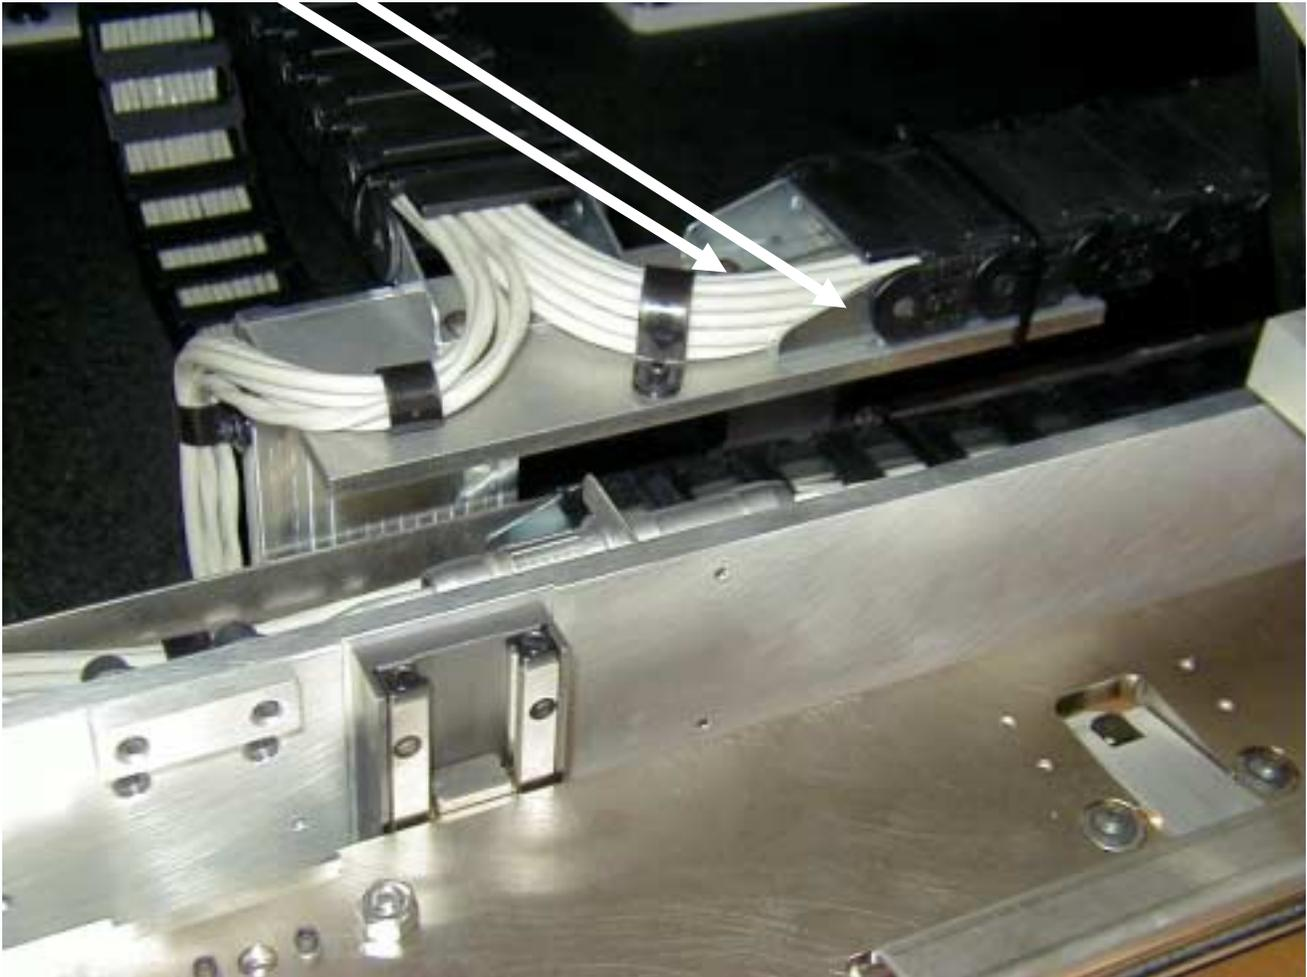

Figure 4.
10. Repeat the above step for the other E-Chain. Save the 2 screws. Leave the E-Chain in its general position (see Figure 4).